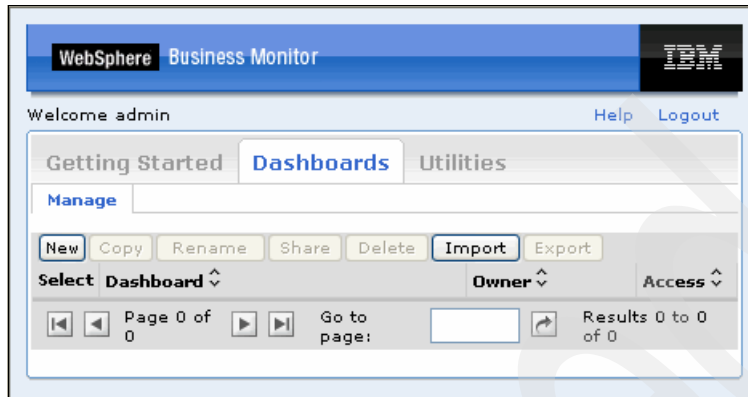

Figure 8-147 Dashboards page
3. On the Dashboards page (Figure 8-147), under the **Manage** tab, click **New** to create a new dashboard.